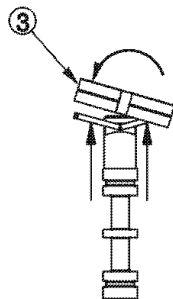
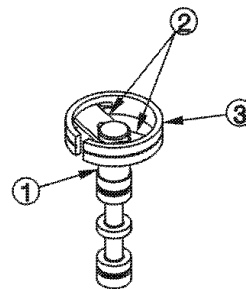

FIG. 3
FIG. 4
- Tilt the detent ring (item 3) over one of the legs, and align the groove on the inside of the detent ring with the end of the detent leg. Tilt the other side of the ring down, expanding it slightly, so that the other detent leg snaps into the detent ring groove. See Fig. 3. The completed assembly should look like Fig. 4 (see Figure 4-3).